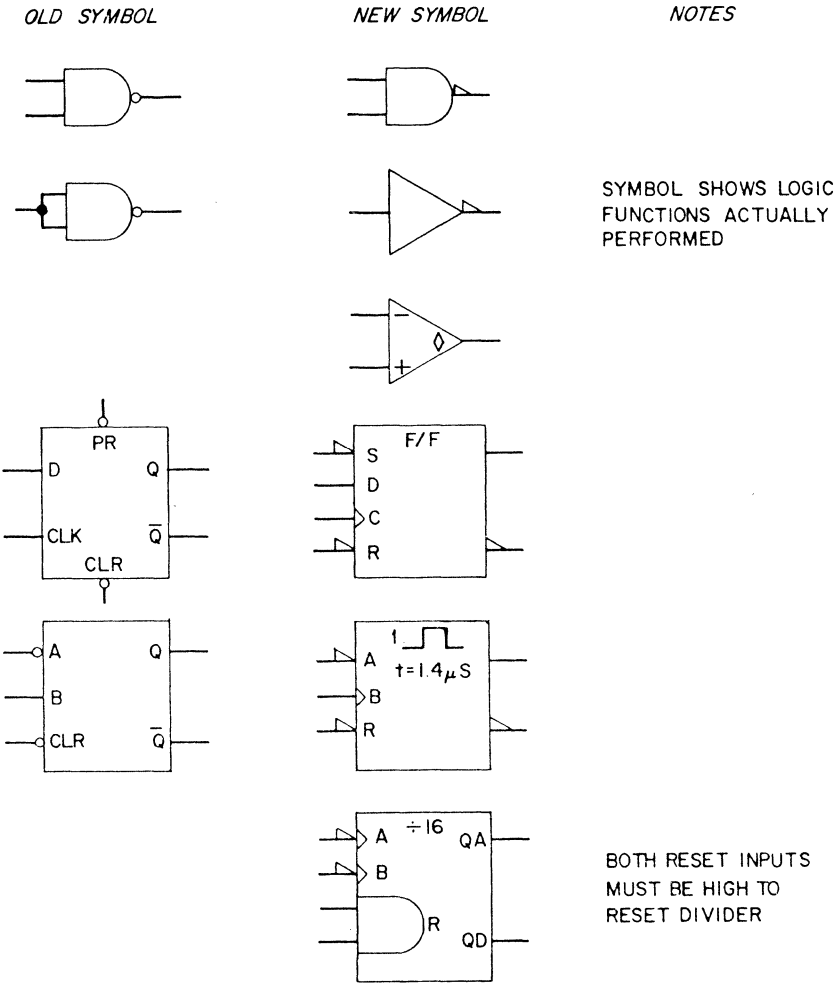

Figure 7-5. Waveforms
- e. Power supply waveforms (Figure 7-5), illustrating waveforms found at key points in the power supply under various conditions.